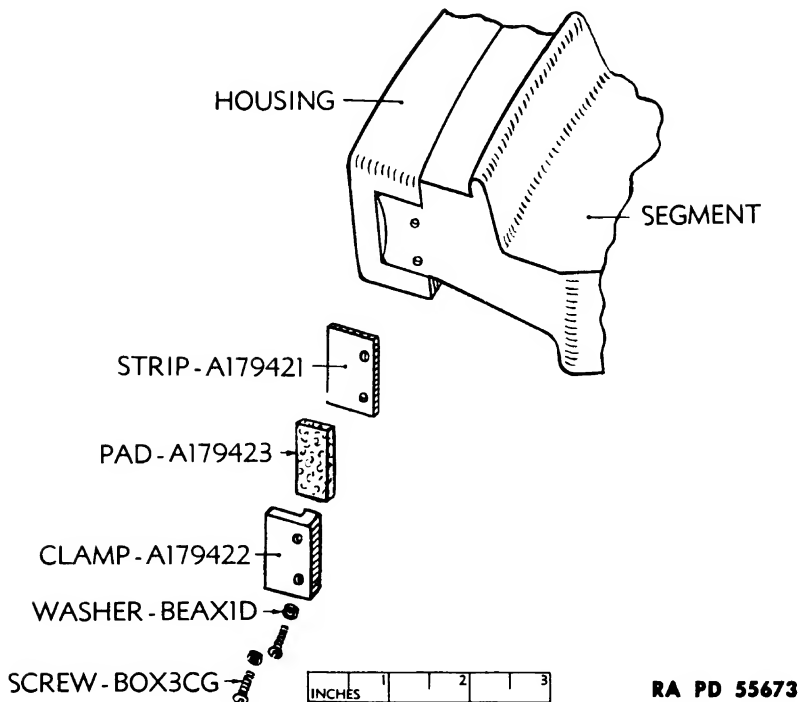

Figure 32—Gear Segment Pad Assembly—Exploded View
(1) To remove the oil pads assembled at the ends of the arc of the gear segment, remove the two roundhead screws BCOX3CG and washers BEAX1D (fig. 5, section C-C and fig. 32).
(2) To remove the deflection scale, remove the two roundhead screws, BCOX3EG and washers BEAX1F at the rear and left-hand side of the gear segment.